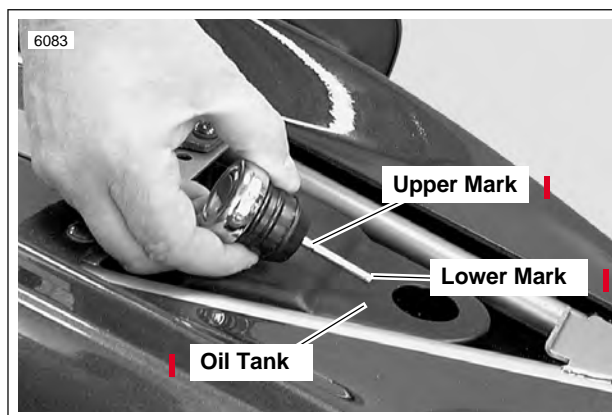

Figure 1-5. Checking Oil Tank Level
2. See Figure 1-5. Remove filler cap/dipstick from oil tank. Wipe dipstick clean.